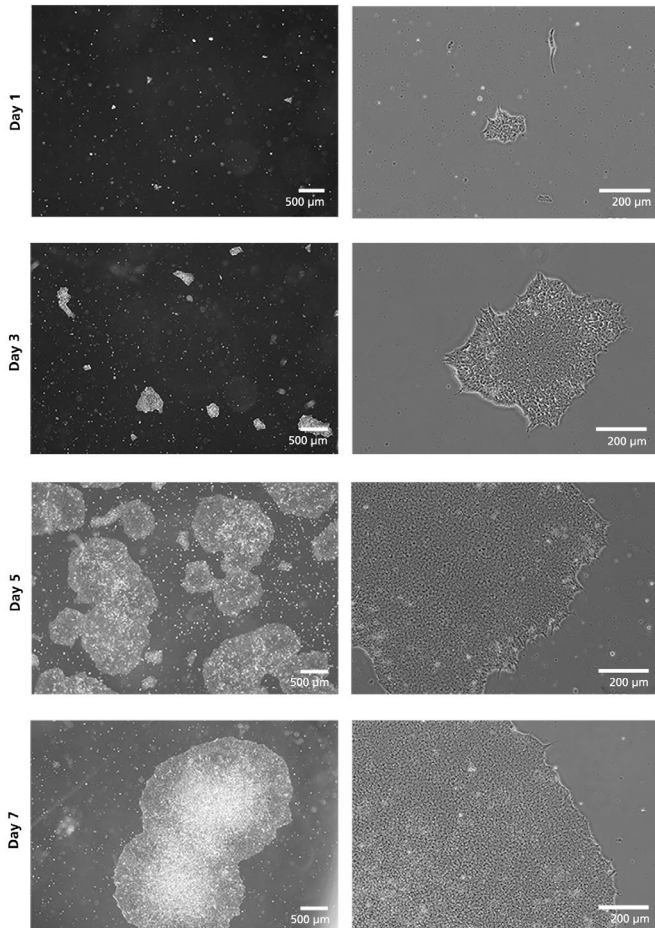

Figure 1. Recovery of SCTi003-A-1 hiPSCs on Days 1 - 7 After Thaw
13. Perform medium changes as desired using mTeSR™ Plus and visually assess cultures daily to monitor growth and morphology. See Figure 1 for expected growth characteristics during the first seven days after thawing. Medium can be changed daily, every other day, or up to two consecutive days of feeding can be skipped when using mTeSR™ Plus. To skip two consecutive days of feeding, add twice the volume of medium.